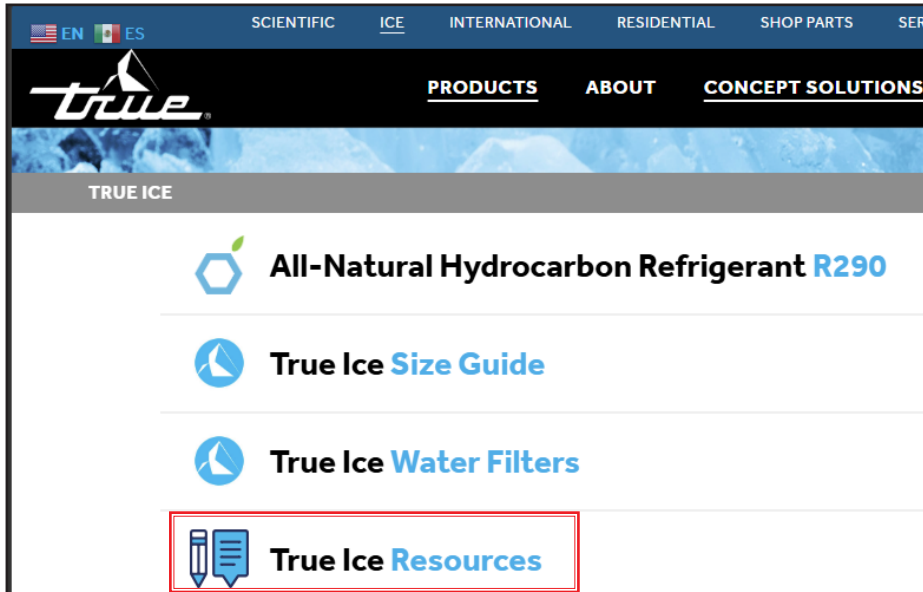

Fig. 4. Scroll down and select **True Ice Resources**.
4. Scroll down and select **True Ice Resources**. See fig. 4.